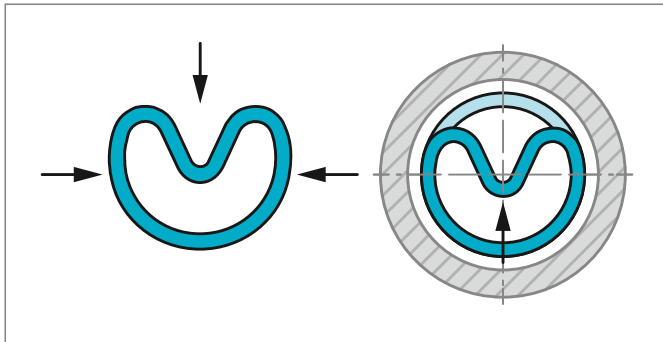

Figure 180: Place the Excluder® in compressed form into the groove behind the O-Ring and push Excluder® ring in the direction of the arrow
- 2) The Excluder® ring is compressed into a kidney-shape and placed in the groove, see Figure 180.